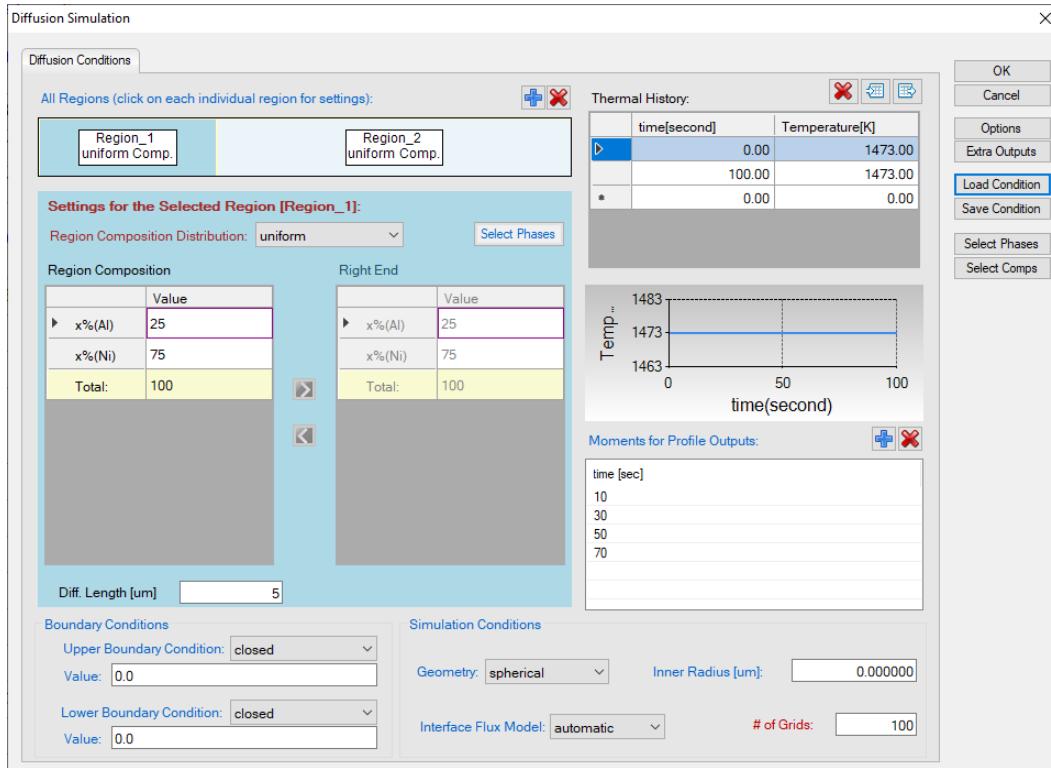

Figure 4.9.1: Setting of the simulation condition
- Click on "PanDiffusion->Diffusion Simulation" and set up the calculation condition as shown in Figure 4.9.1. Click on Region_1 and set the composition as 25Al-75Ni (at%) and select L12_FCC as the entered phase in "Select Phases" of "Settings for the Selected Region [Region_1]". In Region_1, set the Diff. Length as 5 μ m. Click on Region_2 and set the composition as 15Al-85Ni (at%) and select Fcc as the entered phase in "Select Phases" of "Settings for the Selected Region [Region_2]". In Region_2, set the Diff. Length as 10 μ m.
- In the setting shown in Figure 4.9.1, composition profiles at the initial and final stages, as well as at 10s, 30s, 50s and 70s, will be outputted. Click OK to perform calculations.